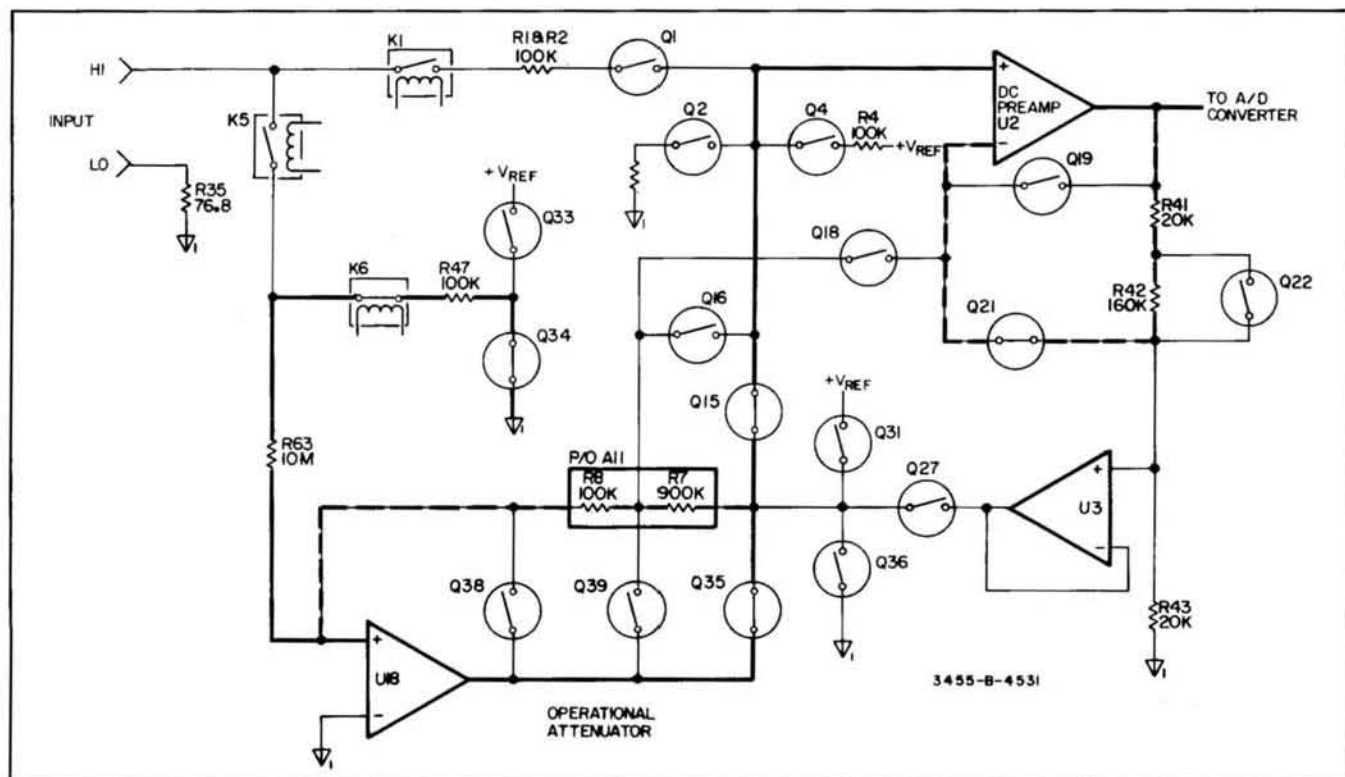

Figure 8-14. 100 V dc Reference Offset Error Measurement.
**8-33. 100 V dc Reference Offset Error Measurement.** Since the reference voltage for the 100 V dc range is divided by the operational attenuator; a separate offset error measurement is made to include any offsets which might be associated with the attenuator and FET switches used. Figure 8-14 illustrates the circuit configuration for this measurement.